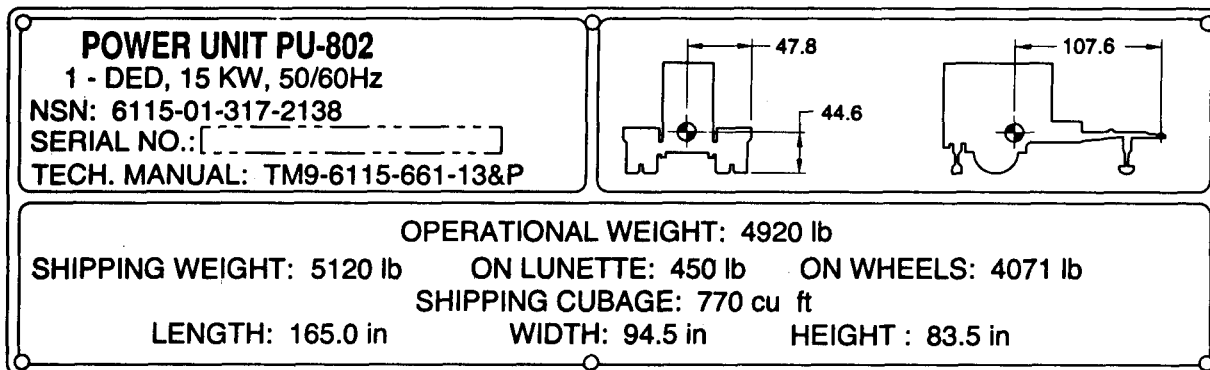

Figure 2-14. PU-802 Identification/Transportation Data Plates.
**2-6.3 PU-802 Identification/Transportation Data Plate.** See figure 2-14. This plate is located on the trailer body.